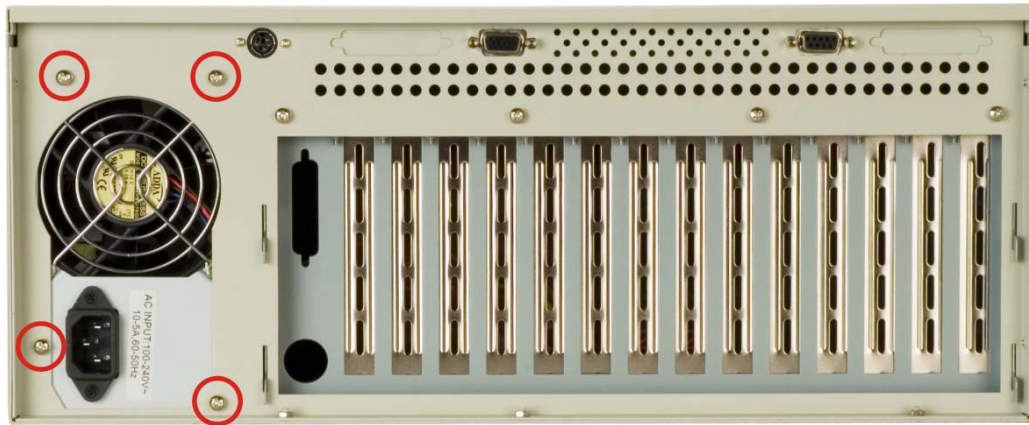

Figure 5-1: PSU External Retention Screws
- Step 6:** Remove the four external retention screws that secure the PSU assembly to the rear panel of the workstation (**Figure 5-1**).